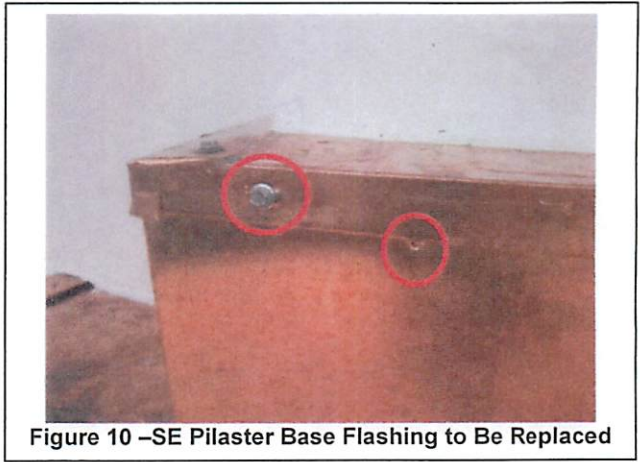

Figure 10 –SE Pilaster Base Flashing to Be Replaced
- 15 - SE Pilaster (Between Windows 1 & 2 on plan) Copper to be replaced. A hole adjacent to top screw and a hole in face of vertical flashing was noted. **Figure 10**